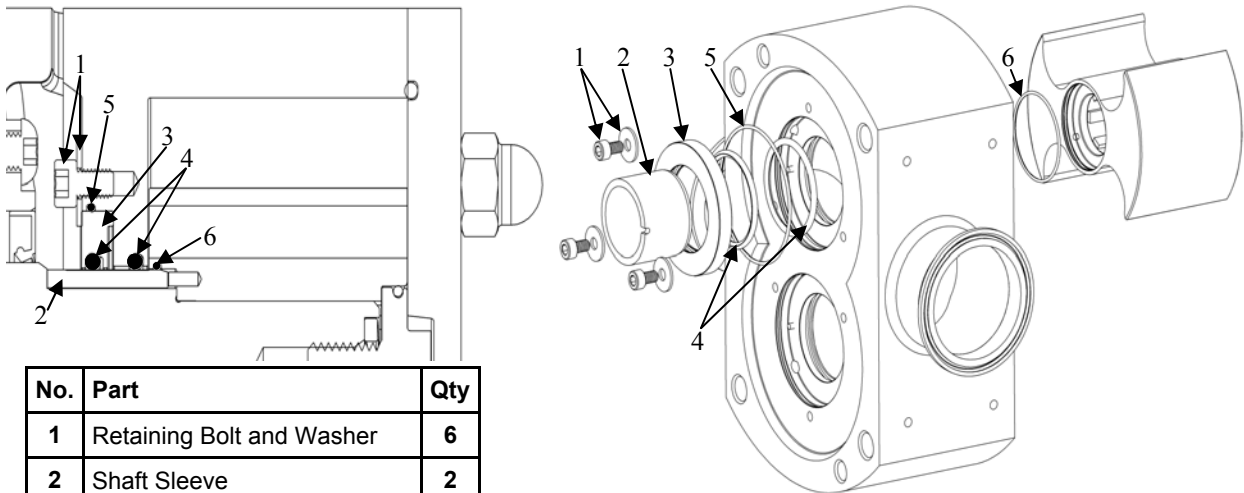

Figure 31: Double O-ring Seal
Disassembly: The double o-ring seal option is shown in Figure 31. Remove the retaining bolts and washers using the appropriate driver and slide the o-ring carrier out of the body. Remove the o-rings from the body, o-ring carrier, and rotor (Figure 31, items 4, 5, 6). If damaged, replace o-rings. Slide the shaft sleeves off the shafts and inspect for damage. Do not re-use sleeves that are damaged (sleeve surface grooved or scratched).
Disassembly: The single mechanical seal option is shown in Figure 33. The QL single mechanical seal is designed to be front pull out without the need to remove the pump body. Using the o-ring tool provided by Q-Pumps remove the mechanical seal from the rotor and body. Inspect the seals for chipping, scratches, or any evidence of cracks on the seal face (the mechanical seals are interchangeable). Remove the o-rings from the body and rotor (Figure 31, items 3, 5). If damaged, replace o-rings. If any of the seals are damaged do not re-use them. To remove the mechanical seal base loosen the retaining bolts and washers using the appropriate driver and slide the single mechanical seal bases out of the body.